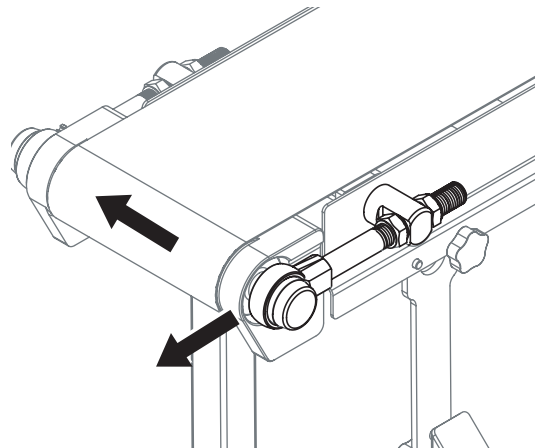

Figure 50
- b. Tighten the nut to increase the length of the idler tail shaft and move the belt away from that side of the conveyor (Figure 50).